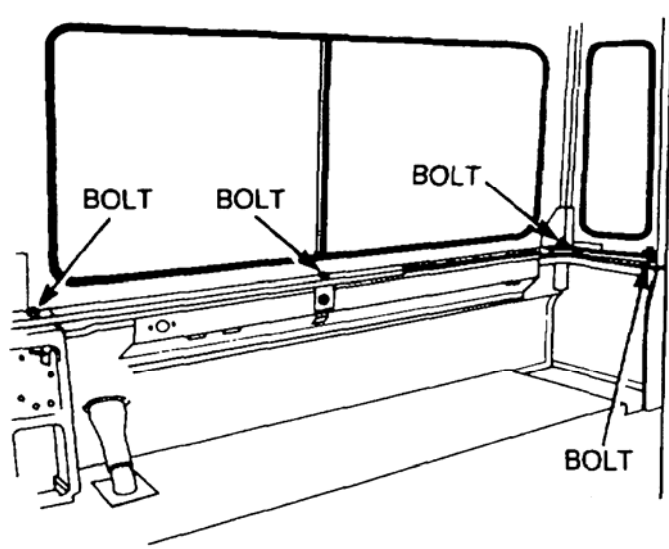

Figure 14 Removal of the Rear Body Bolts
- x. Remove the ten nuts and bolts that secure the upper body panels to the lower body frame (Figure 14).
- jj. Fit the ten bolts, nuts and washers that retain the upper body panels to the lower body frame (Figure 14) and tighten them securely.